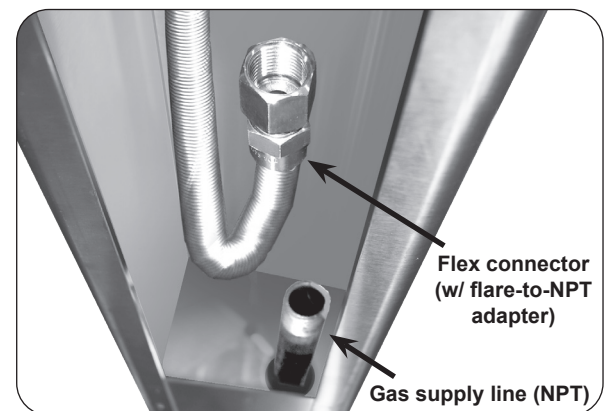

Fig. 28-3 Post interior detail
2. Verify that the gas supply line fits through the gas line clearance hole in the bottom of the post (see Fig. 28-3). The clearance hole is the larger of the two holes in the bottom of the post and is off center.